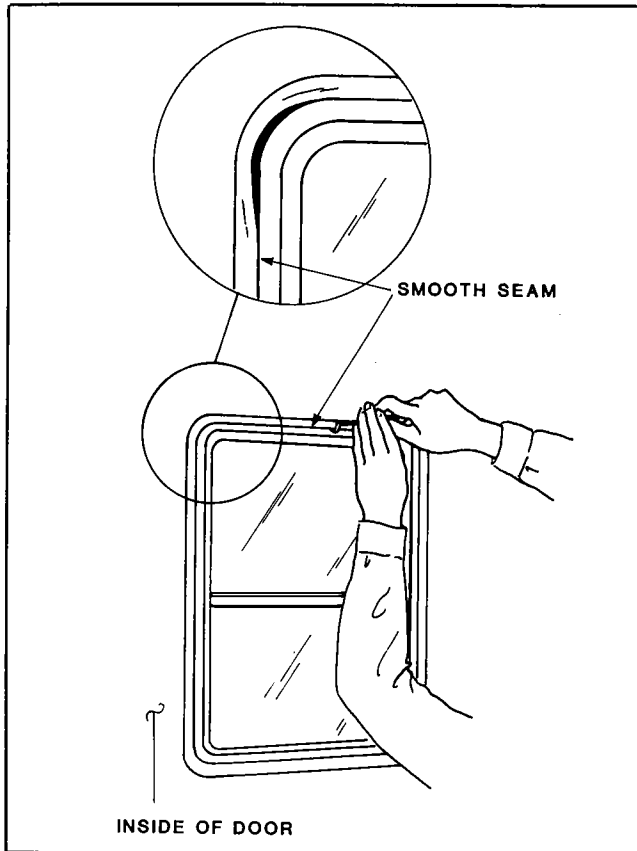

Figure 46. Lacing Window
6. Lace window by inserting end of installation tool in groove and working completely around window until properly seated. The surface seam should be smooth when properly laced (figure 46).